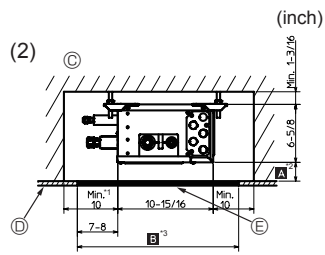
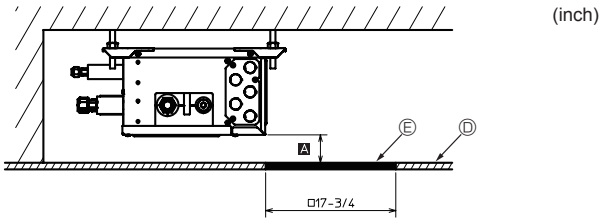

Fig. 4-7
Fig. 4-8
- (2) Side View (Fig. 4-7, Fig. 4-8)
In the case of "□ 17-3/4 inch (450 mm)", prepare a maintenance hole at a PCB side (as it is shown in Fig. 4-8), and "Min. 11-13/16 inch (300 mm)" is needed as distance Ⓐ.